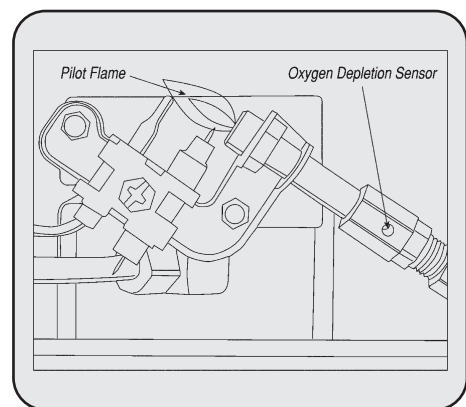

Figure 6
- Visually inspect the pilot flame and burner periodically during use. The pilot flame should be blue in color (not yellow) and will extend to the thermocouple. The flame will surround the thermocouple just below the tip. See Figure 6.
2. Remove (4) four screws that secure the rear cover (ref. # 3) to the heater.
4. Remove (4) four burner retaining screws and fuel line from burner assembly. Remove burner assembly (ref. # 25) from back of housing.
6. Inspect and clean main burner orifice (threaded into orifice holder). Orifice holder is attached to the burner assembly venturi with (2) two screws.
7. Inspect and clean pilot (mounted to bracket) by using a vacuum or apply air pressure through the holes in the pilot indicated by the arrows in Figure 6.
- If the heater is to left "OFF" for a considerable period of time, the propane (LP) gas supply to the heater should be turned off as close to the gas source as possible. In the case of portable use, the gas should be turned off at the propane (LP) gas supply cylinder.
- If the heater is put into storage, make sure to disconnect the propane (LP) gas cylinder.